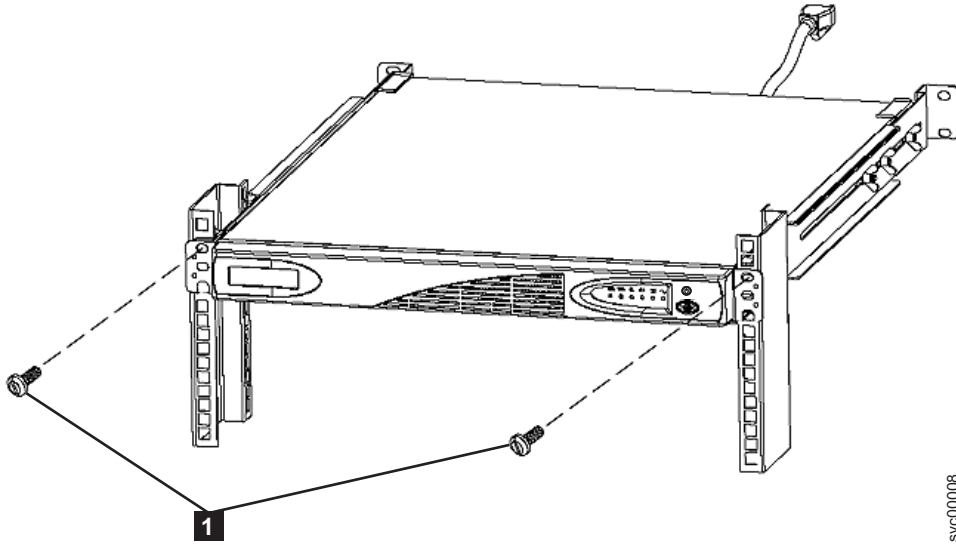

Figure 314. Mounting screws for the 2145 UPS-1U
4. At the front of the 2145 UPS-1U, install the two mounting screws (**1** in Figure 314 on page 309).